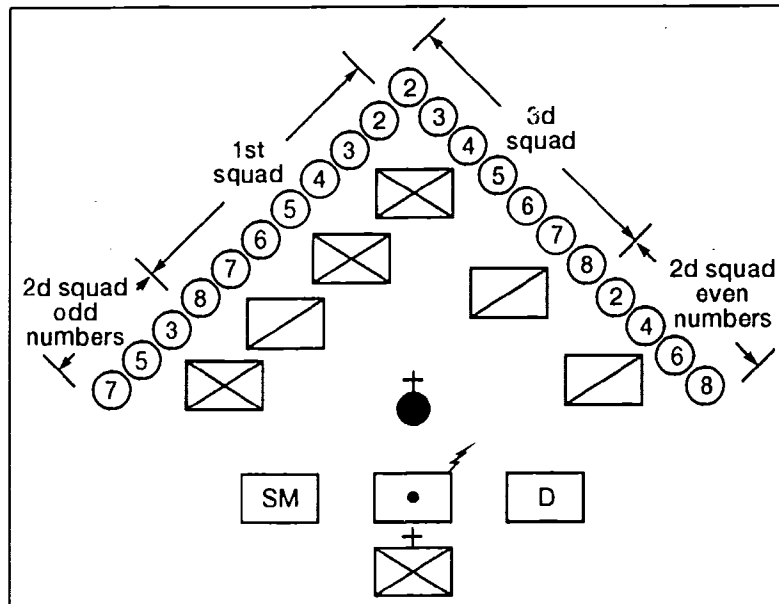

Figure 191-379-5400-10. Platoon Wedge
9. Form the platoon in a platoon wedge (figure 191-379-5400-10).